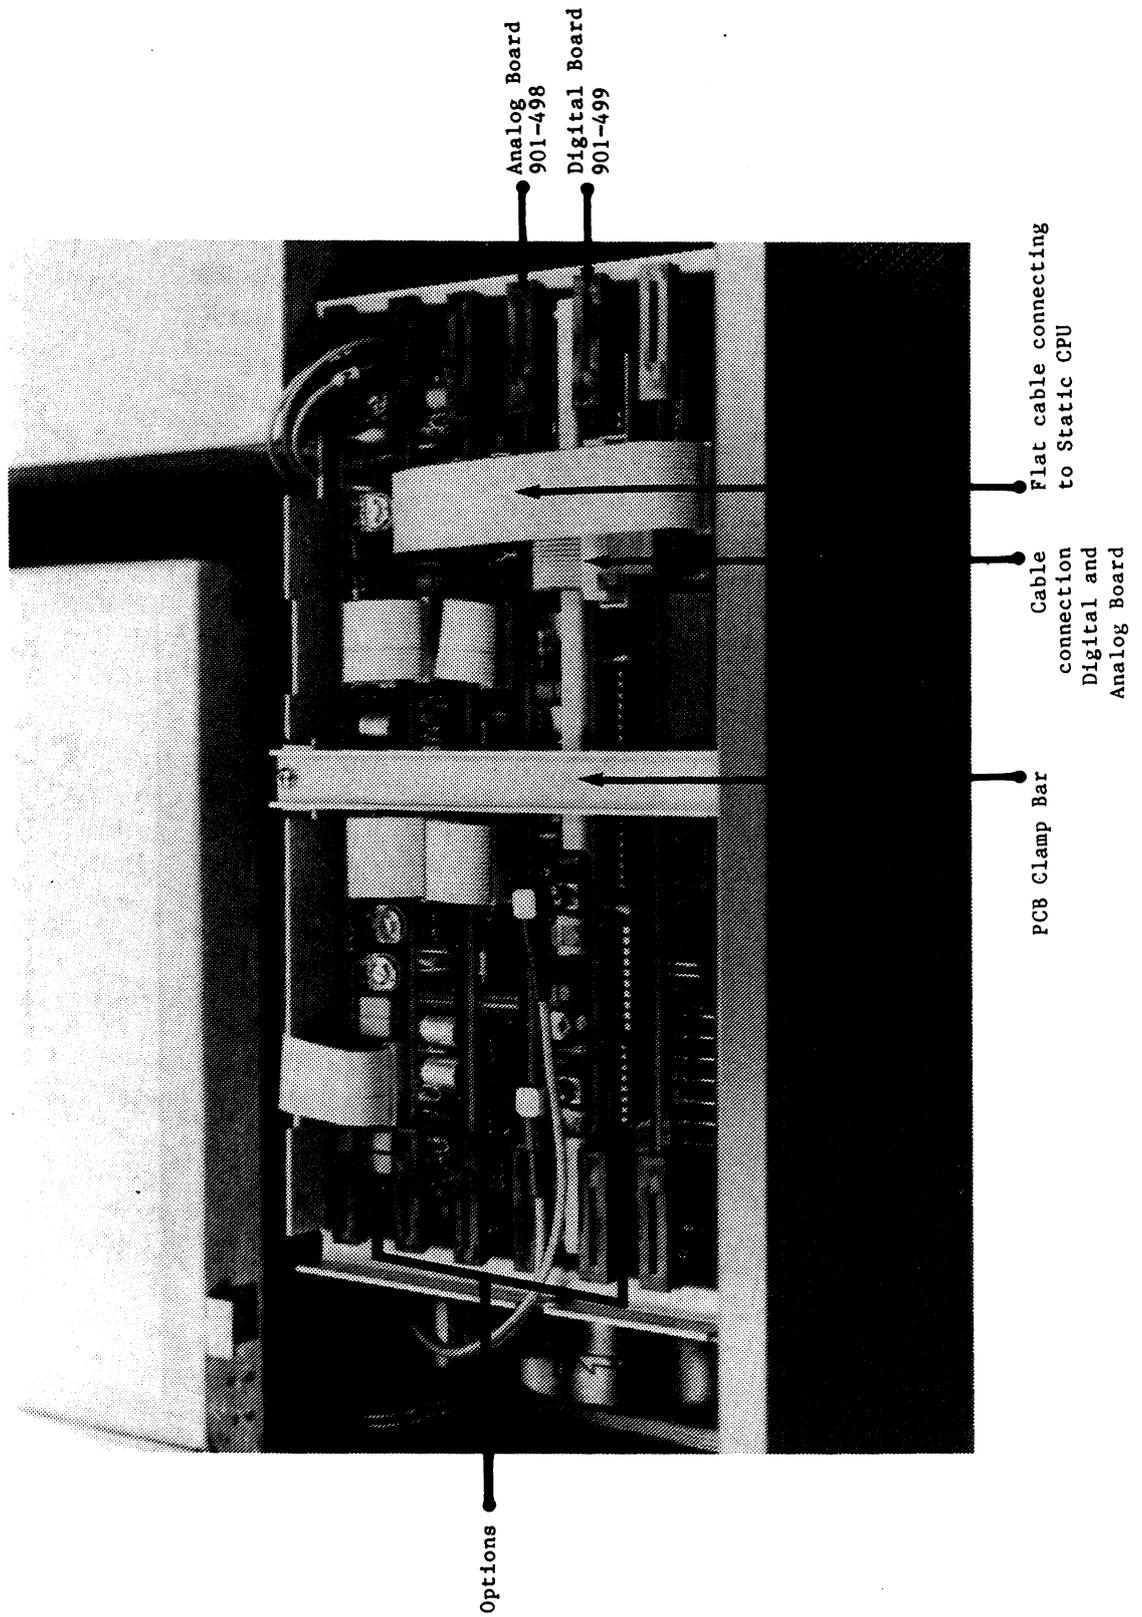

Fig. 1.2 - Audio Generator Option Installed
- * Remove the clamp bar securing the PCB's (refer to fig. 1.2).
Fig. 1.2 shows the RE201 Analog Section with the Audio Generator Option properly installed.